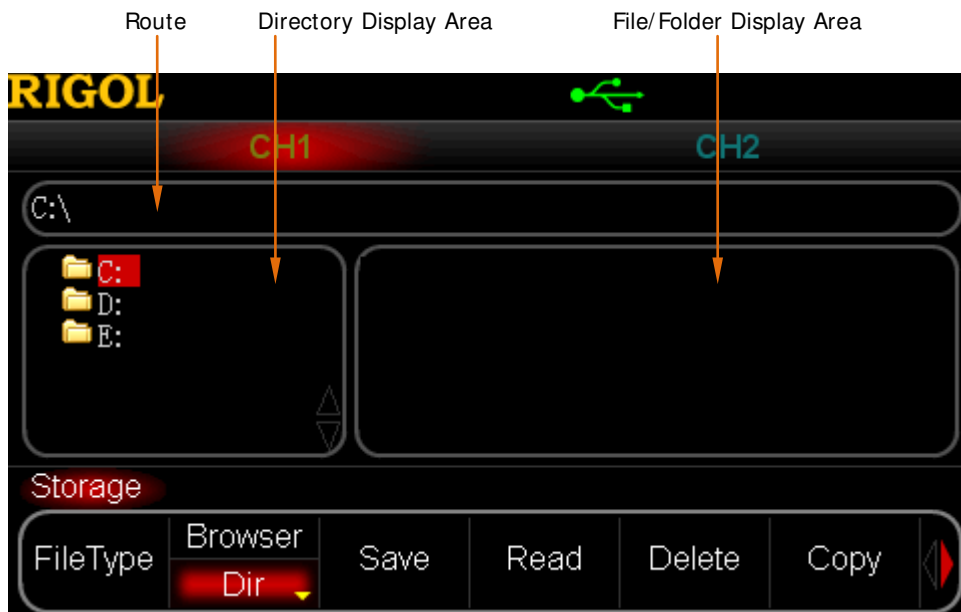

Figure 9-1 Store/Recall Interface
3. Press **Store/ Recall** key at the front panel of DG5000 to enter Store/Recall interface. The model identifier of DS1 will appear in the "Directory Display Area" (refer to Figure 9-1).